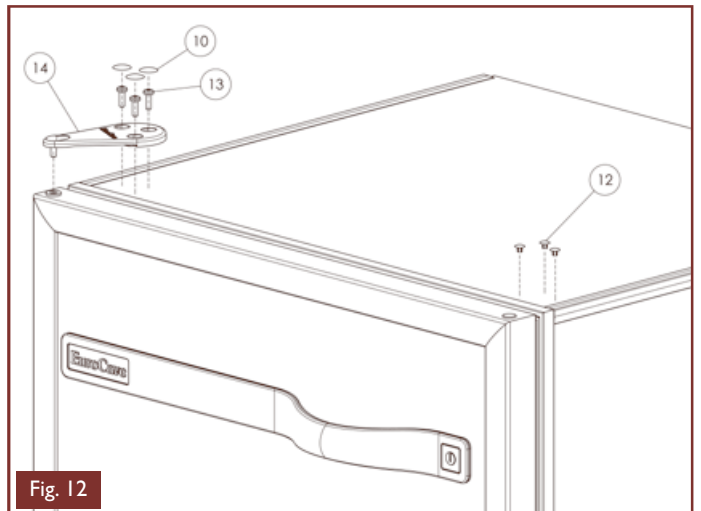

Fig. 12
- Relocate the hinge (14), using the screws (13) in such a way so that the door is parallel with the case, see Fig.12
- Replace the grommets (10) and (12), see Fig.12